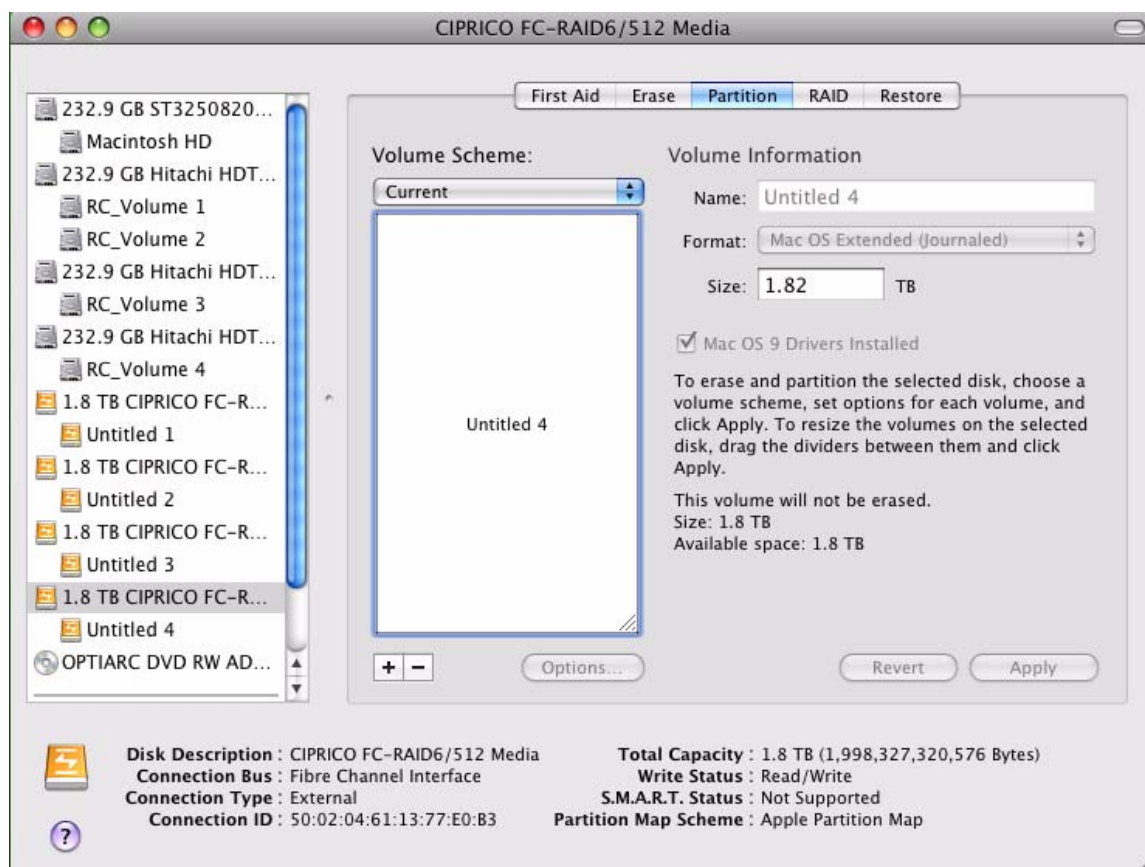

FIGURE 6-8. The Apple Disk Utility Screen, Showing Four Partitioned vPODs.
9. When the partition process is finished, the four named vPODs appear at the left side of the *Apple Disk Utility* screen. See Figure 6-8.